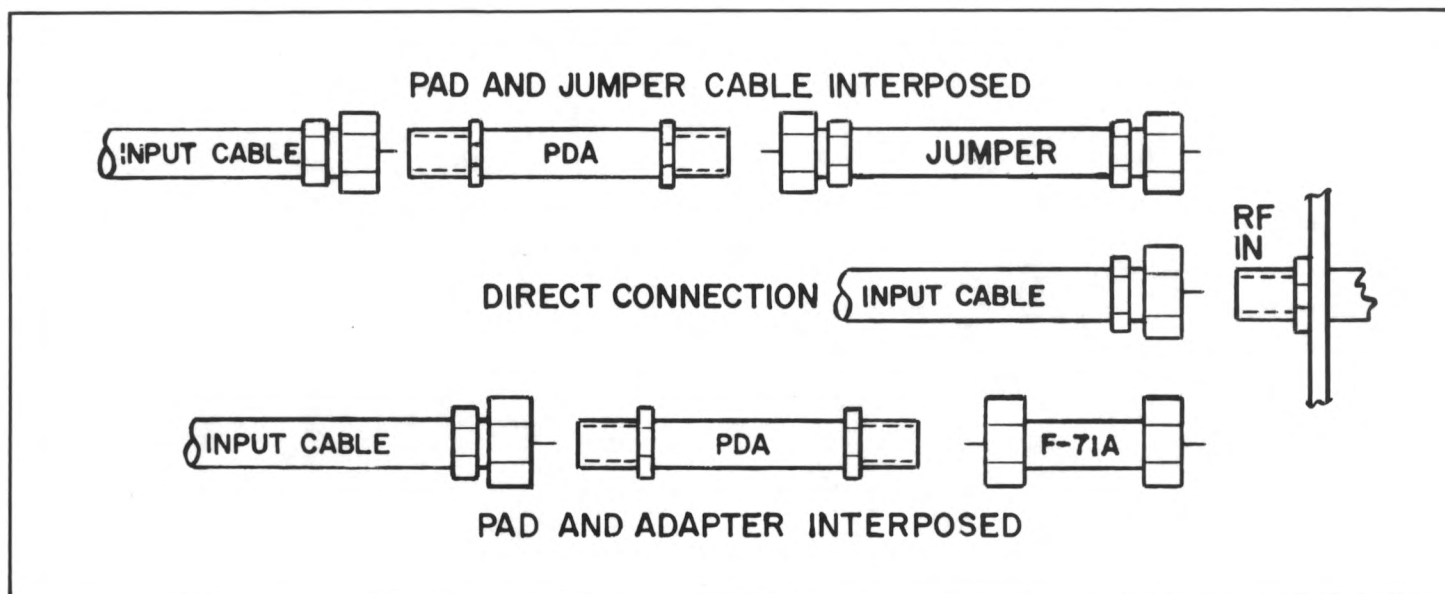

Fig. 11 RF INPUT LEVEL PADDING METHODS
- 3.2 Before attaching the cable to the RF IN terminal, connect it to a signal level meter, then measure and record the level for future reference. Next, detach the cable from the meter and attach it to the RF IN terminal on the Processor rear panel. Should the measured level exceed the specified maximum of +30 dBmV, first install an in-line pad Model PDA of the required rating and equipped with an F-71A adapter or a short coaxial jumper at the RF IN terminal and then attach the input cable to the PDA; see Fig. 11 .
- 5.3 Connect the cable carrying the off-air channel reference signal to a signal level meter and measure and record the signal level for future reference. The level should be +20 to +40 dBmV; if it is higher, an appropriate in-line pad should be installed, as described in the foregoing paragraph 3.2 and Fig. 11, at the PHASELOCK REF.IN terminal on the Processor rear panel. If the signal level is too low, a single-channel preamplifier is required. Then connect the input cable to the PHASELOCK REF.IN terminal or to the in-line pad, as needed.